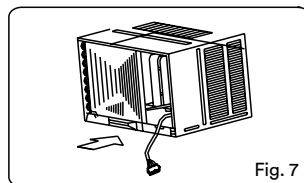

Fig. 7
3. Push the unit chassis into the cabinet (See Fig. 7).